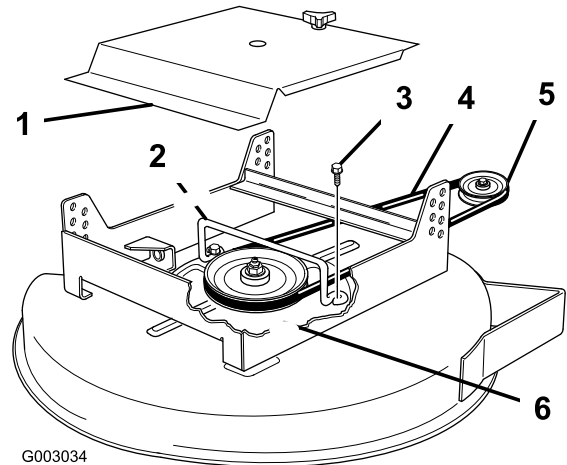

Figure 44
4. Remove the two flange-head bolts holding the belt guide to the top of the mower and remove the belt guide (Figure 44).
6. Install the replacement drive belt around the drive pulley on the traction unit and the spindle pulley (Figure 44).
7. Install the belt guide on the mower with the two flange-head bolts. Ensure that the formed loops face toward the rear of the mower (Figure 44).
10. Install the mower cover onto the cutting unit, then tighten the hand knob (Figure 44).